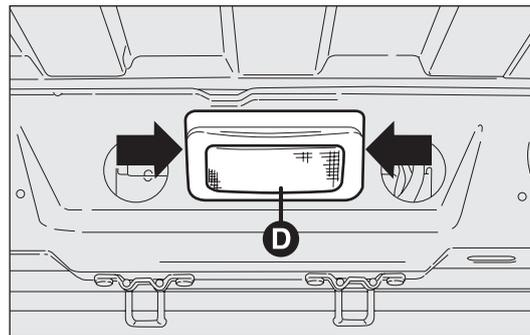
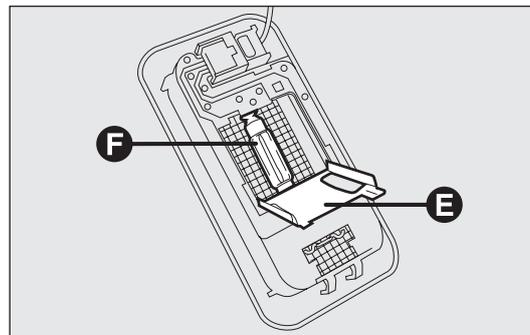

fig. 202
fig. 203
- work in the points shown by the arrows and remove the ceiling light D-fig. 202;
- open the protective flap E-fig. 203;
- replace bulb F-fig. 203 by releasing it from the side contacts and making sure that the new bulb is correctly clamped between these contacts;
- re-close the protection lid E-fig. 203 and secure roof light D-fig. 202 into its housing, locking it correctly.